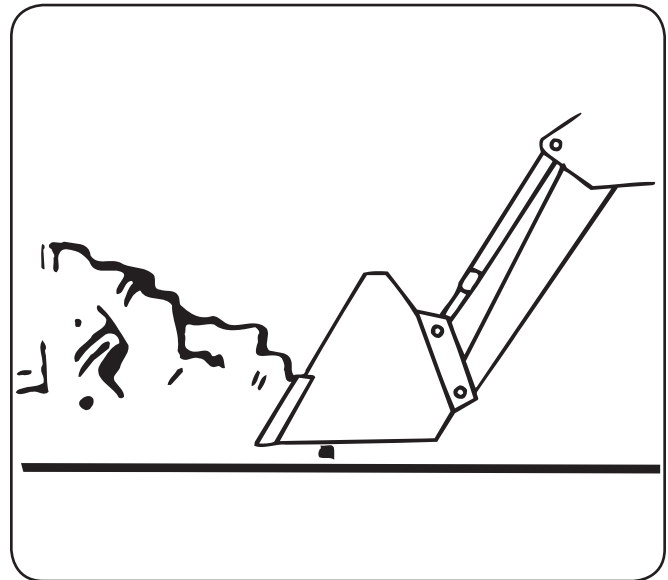

Figure 12
- Approach and enter the pile with a level bucket. See Figure 12.